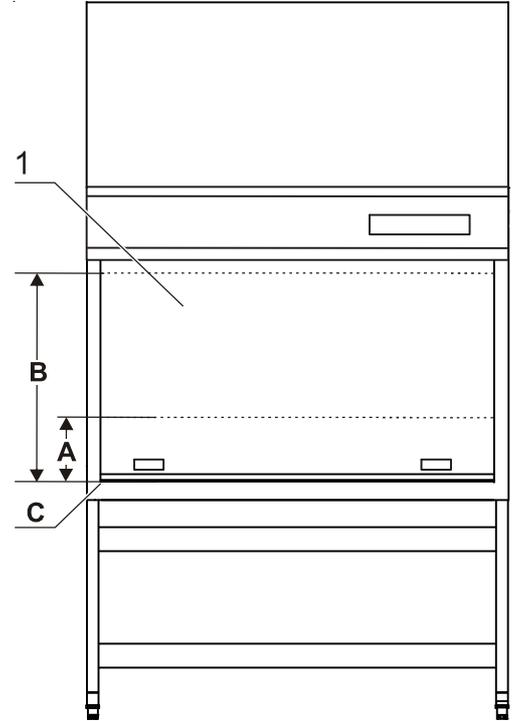

Fig. 6
**Fig. 6:** The manually movable front window [1] made of multi-layer security glass seals the safety sample chamber front side up. The sample chamber is accessible through various positions of the front window.